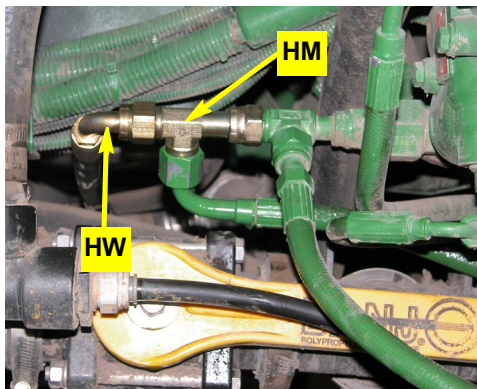
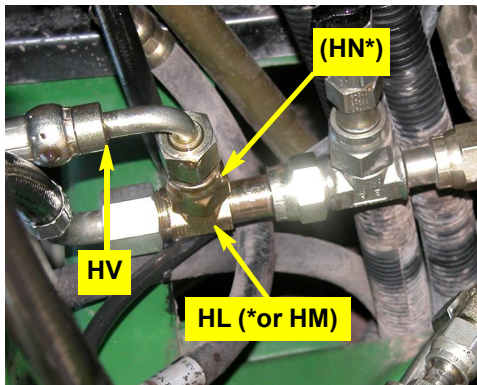
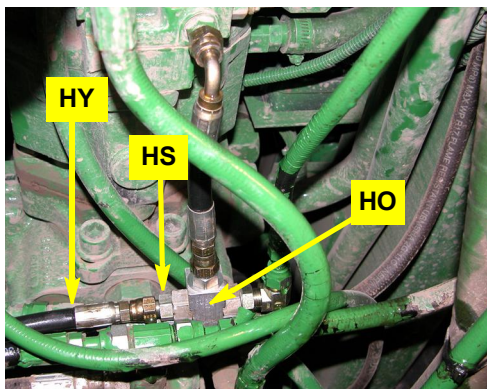
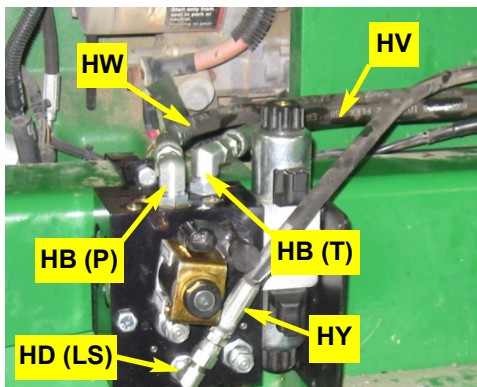

Figure 6d: Pressure hose connected at run-tee at priority divider
Figure 6e: Tank hose connected at run-tee at orbital
Figure 6f: Load sense hose connected at the load sense valve near the hydraulic pump
Figure 6g: Pressure, tank and load sense hoses installed at steering block
c. Install pressure hose **HW** between the open 'T' end of run-tee **HM** installed at step 4f (Figure 6d) and fitting **HB** in the **P** port on the top (as mounted) of the hydraulic steering block (Figure 6g).
d. Install tank hose **HV** between the open stem of run-tee **HL** or **HM\*** installed at the orbital in step 4e (Figure 6e) and fitting **HB** in the **T** port on the top (as mounted) of the hydraulic steering block (Figure 6g). \*If you used the bigger run-tee **HM** for the tank line, use adapter **HN** between the hose and the run-tee.
e. Install the load sense hose **HY** between adapter **HS** in the load sense shuttle valve **HO** (Figure 6f) and fitting **HD** in the **LS** port of the hydraulic steering block (Figure 6g).